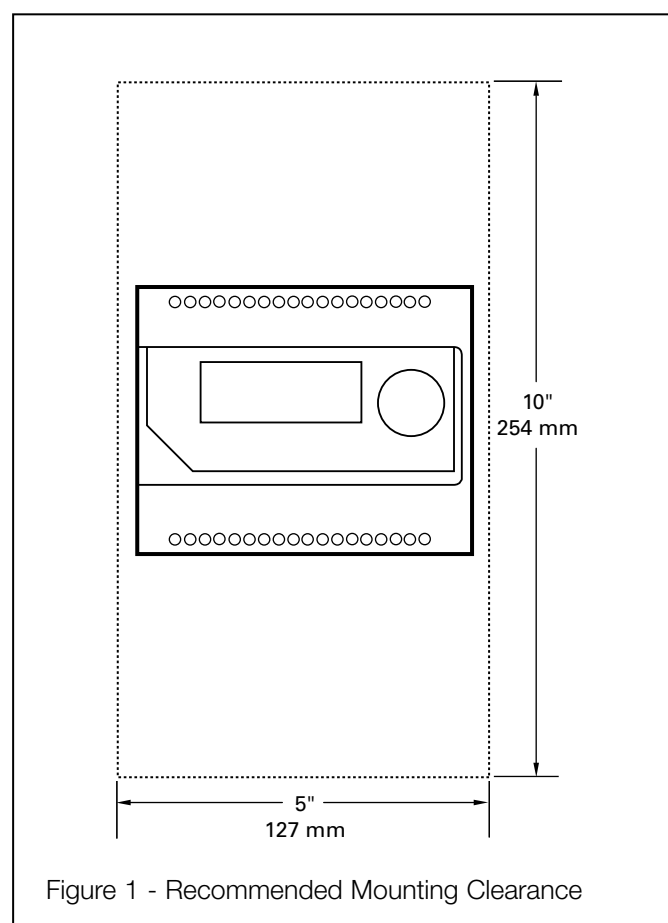

Figure 1 - Recommended Mounting Clearance
1. Mount the controller in a rain-tight, protected location using the supplied DIN rail. To leave enough working space, the suggested mounting area is 10 inches high and 5 inches wide. The minimum depth is 3 inches; see Figures 1 and 2.